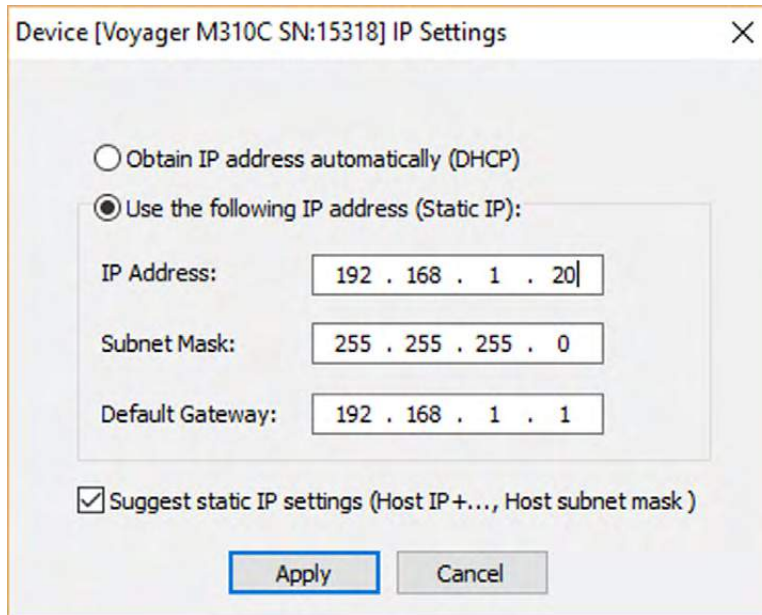

Figure 3.36: Setting Static IP Address for Analyzer
- Now select the IP Settings tab to configure the analyzer with an appropriate IP address (see Figure 3.36 below). In this case we've used the same subnet settings as our host PC but set the LSBs of the IP Address to "20" so that the analyzer won't interfere with our host PC (that has an IP address of 192.168.1.15). See Figure 3.33 on page 125 for reference.